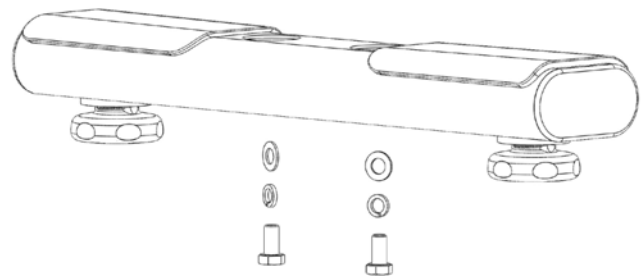

Fig. 8
8. Locate the rear foot assembly along with the corresponding hardware that secures it to the Spinner frame (Fig. 8).